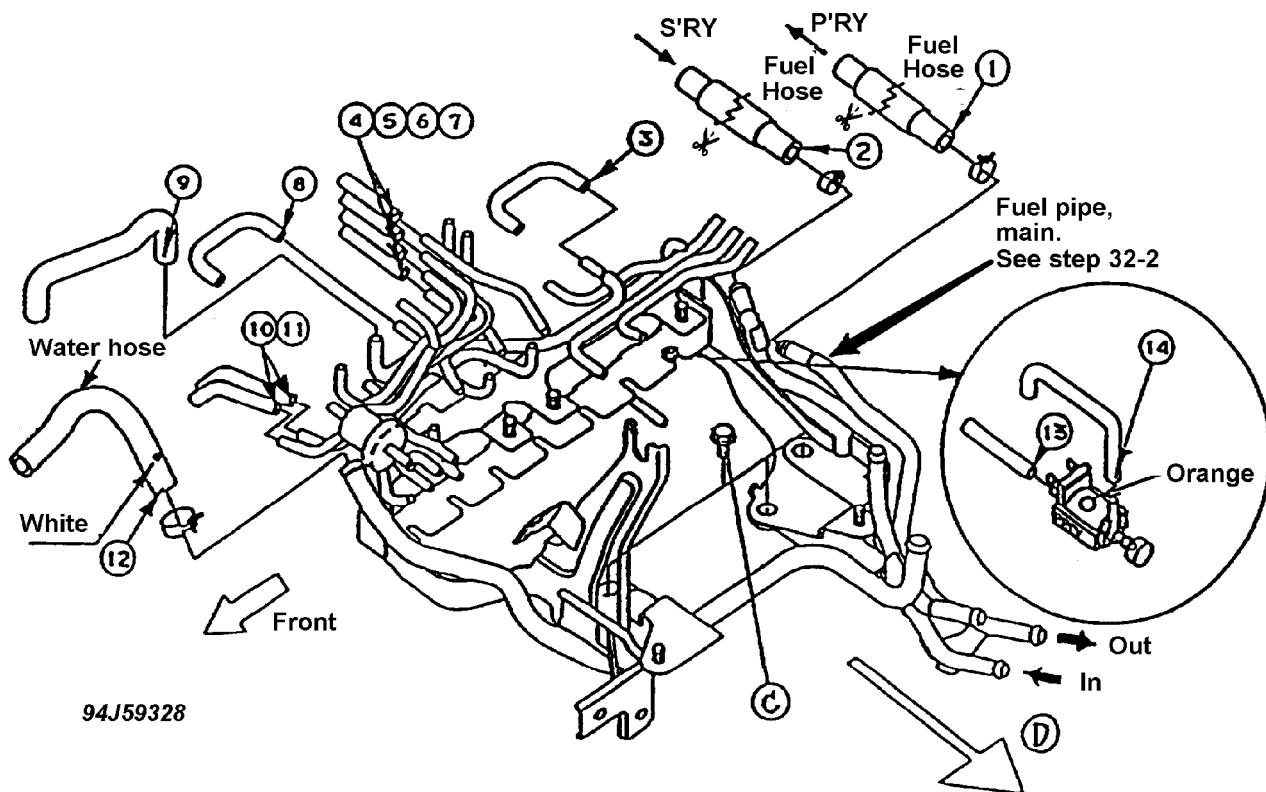

Fig. 46: Exploded View of Tubes & Hoses for Modification
23. Move the vacuum pipe assembly toward the steering shaft side. See Fig. 46.
1. Loosen the three bolts that attach the vacuum pipe to the engine. See letter C in Fig. 46.
3. Remove the vacuum tubes, water hose and fuel hoses (cutting the fuel hoses off at the position marked with scissors makes the work easier). See Fig. 46.
\* Remove the hoses on the sides indicated by arrows (-->) in Fig. 46.